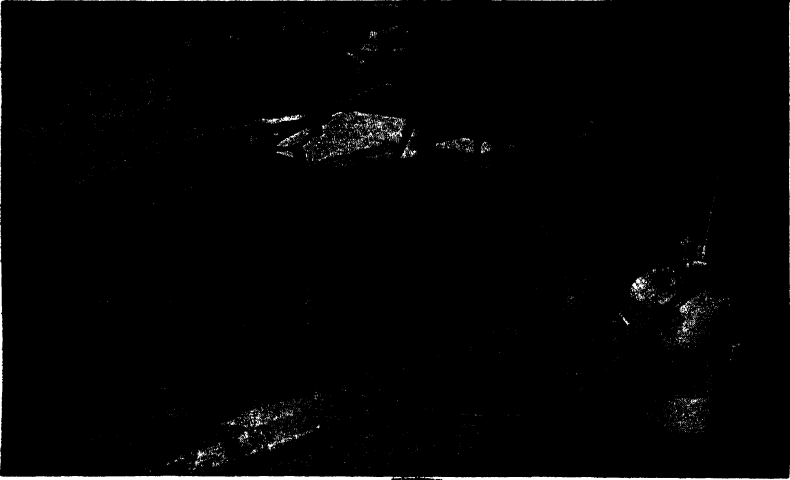

Fig. 39. Oil Burner for Pre-Heating
*Gas and Oil Burners.* If the article to be welded is of fairly large size, the use of gas, Fig. 38, or oil burners, Fig. 39, is economical.